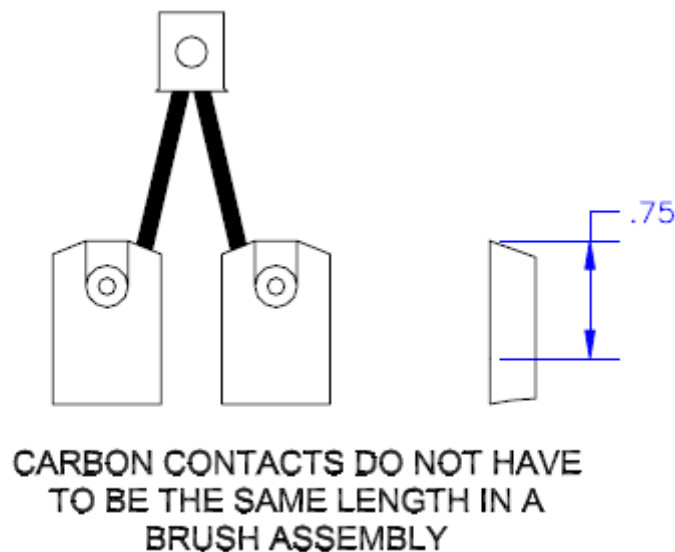

FIG. 3
9.8.3. Measure each brush contact from the center top to the seating area. If any brush contact is shorter than 0.750 (3/4) inches or displays unusual wear patterns replace all brushes. Brushes are not sold individually, order Kit P/N: Z6386AK, note: each individual brush assembly has two leads and two carbon contacts attached to one terminal lug (see FIG. 3 & 3A). Each kit contains 4ea assemblies.